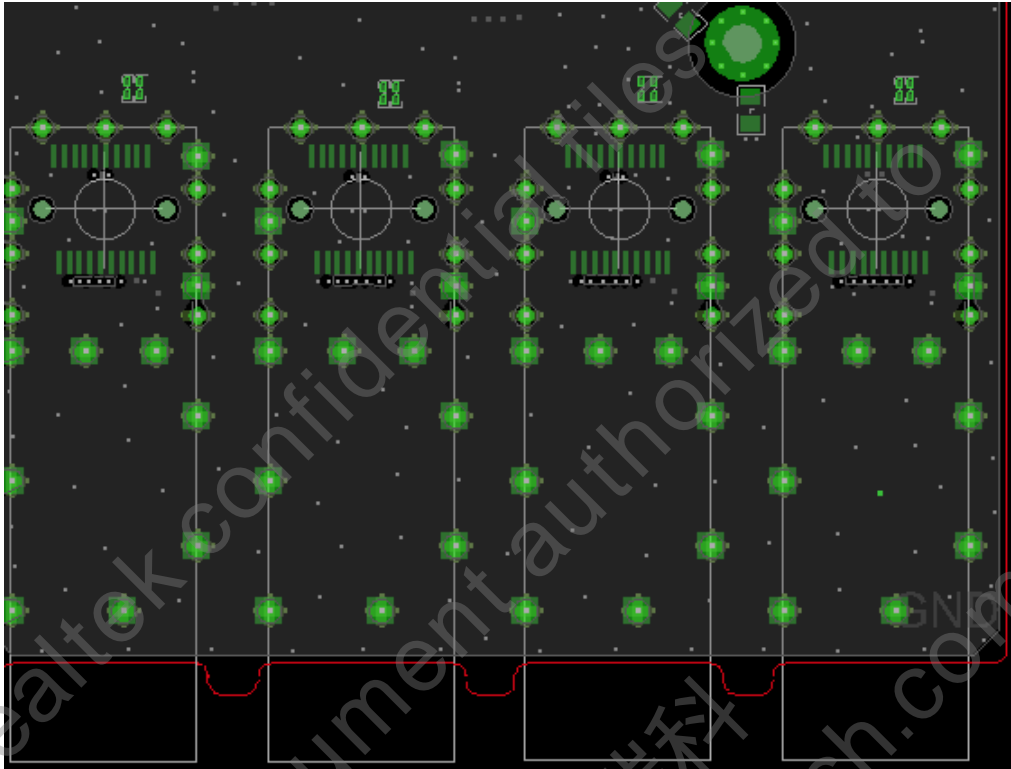

Figure 29. GND plane on Layer 2 in 4-layer PCB for Fiber
- Merge Fiber_Cage_GND with System_GND together(See Figure 29) will improve its ESD performance.